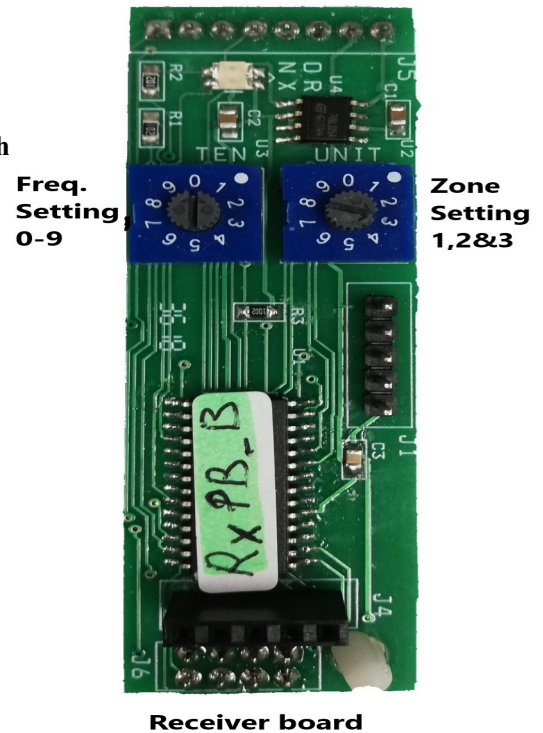

Fig 1
- 2) Turn ON the QHVCr unit by pressing the ON/Standby button on the front panel. The Led indicator will flash orange – green – orange – green and remain Green to indicate that the unit is ready see fig 1.
- 3) The QHCxxMR unit is preset as a Blue zone (1). Turn the Blue control dial to position **2**. The heaters connected to the QHCxxMR units will come ON at the minimum setting 33%. Continue to turn the Blue control dial through position **3** to **5** until you reach the desired setting. Settings are **1 = 0%, 2 = 33%, 3 = 50%, 4 = 66% & 5 = 100%**.